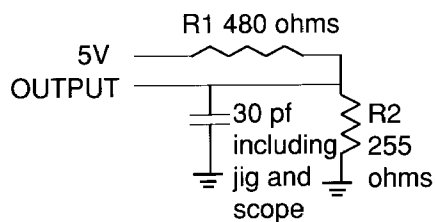

Figure 1a
1. Test conditions assume signal transition times of 5ns or less, timing reference levels of 1.5V, Input pulse levels of 0 to 3.0V and output loading specified in figure 1a.